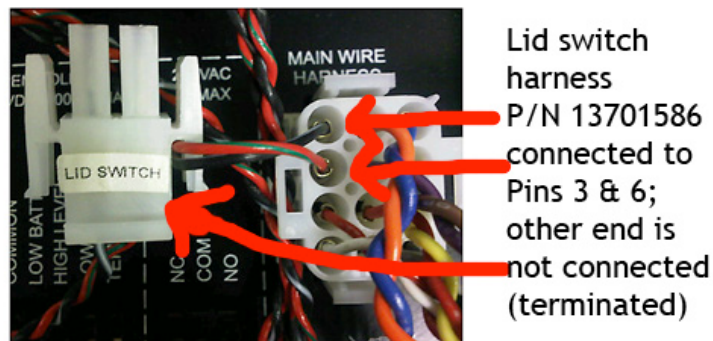
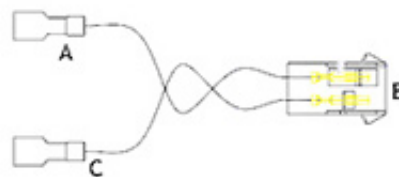

Figure 7 -- P/N 13701586 Lid Switch Wire Harness Not Connected
Figure 9 -- Optional Fog Clear Wire Harness P/N 13296488
Included from the factory is a Lid Switch Harness P/N 13701586 (See figure 7). The harness is connected at pins 3 and 6 to the TEC3000 main harness (see figure 7). The other end is a white male connector labeled "Lid Switch". This is purposely not connected and secured / located within the black plastic wire loom to later allow users to add the optional lid switch alarm and fog clear features.
A: The UL Approved harness must be disconnected from the lid switch and fill solenoid. The fog clear harness connects directly to the two terminals on the lid switch and to the terminating end of the lid switch harness. The fill solenoid is then connected directly to the TEC3000 main wire harness (See figure 9).
To enable the TEC3000 Lid Switch Alarm and Fog Clear Options install the wire harness P/N 13296488 as described in figure 9.
The one end of the fog clear harness connects to the lid switch harness P/N 13701586 (See figures 7 & 9) and the other end connects to the Lid Switch terminals (See figure 9). The UL Approved-Listing Harness is completely removed from the circuit. The fill solenoid is then connected directly to the Main wire harness (See figure 9).
A: Connects to Lid Switch harness P/N 13701586 (see figure 7)
- C: Connects to Lid Switch harness P/N 13701586 (see figure 7)